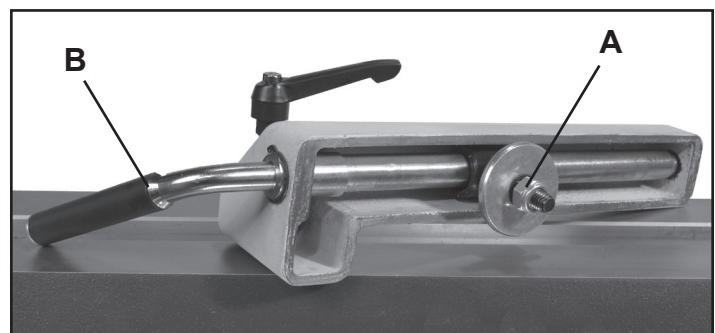

FIG. 14
If adjustments are needed, the clamping pressure can be changed by turning the large Hex Nuts (#15C & 9D) that are located under the lathe bed and below the assemblies. This is done with a 16mm (5/8") or adjustable wrench (not included). FIG. 14 shows the tool rest removed from the lathe bed to view the locking mechanism and Hex Nut (A).
1. Loosen the Locking Handle (B) so that there is no clamping pressure being exerted on the lathe assembly.